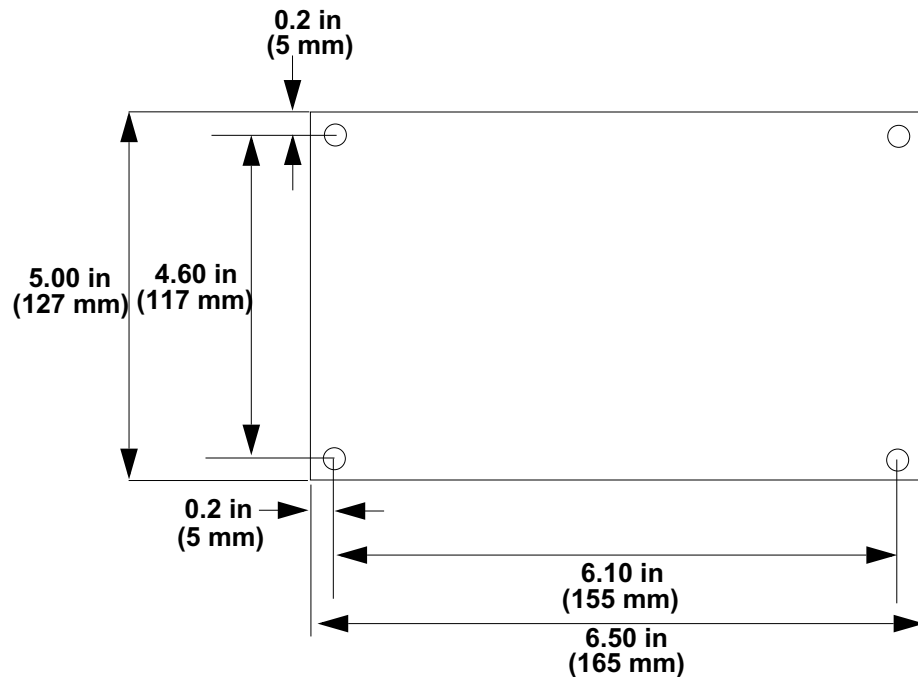

Figure 2.7 *MLS300-AIM Template*
2. Use the template shown in *Figure 2.7* as a reference for clearance and dimensions.